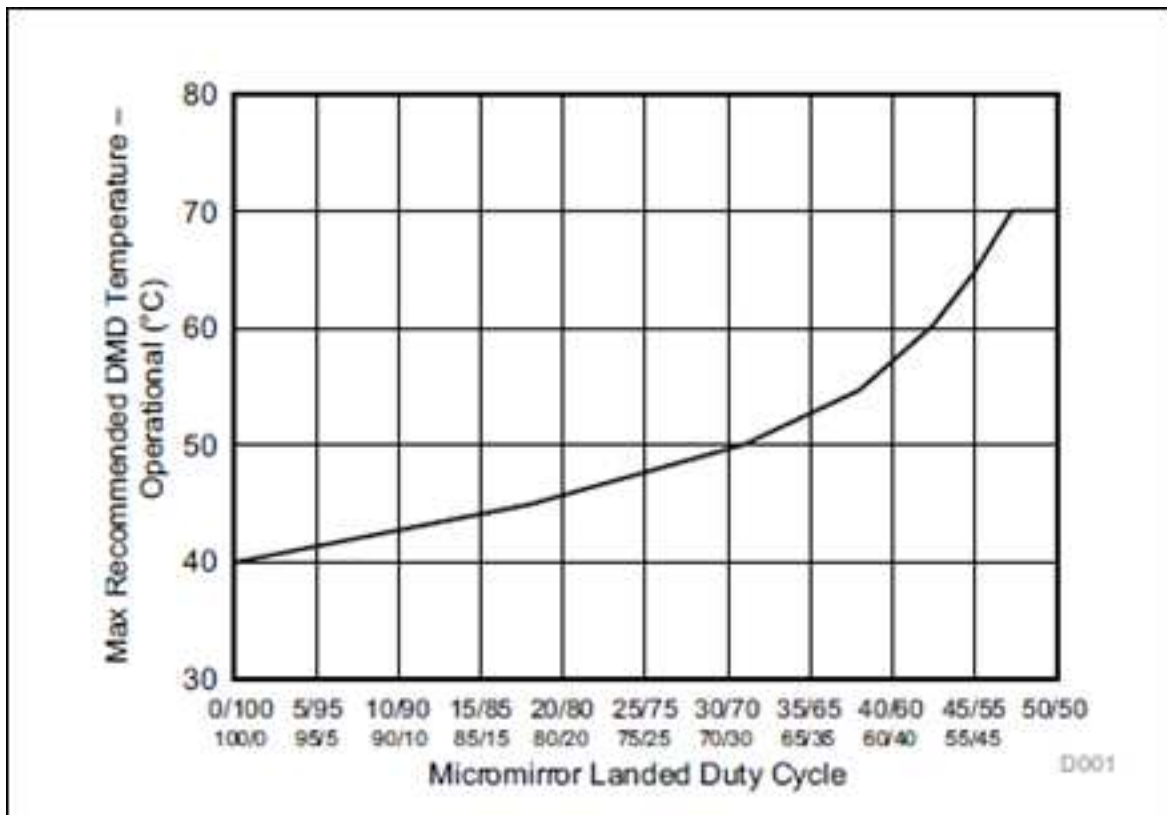

Figure 1. Max Recommended DMD Temperature – Derating Curve
(14) Per Figure 1, the maximum operational case temperature should be derated based on the micromirror landed duty cycle that the DMD experiences in the end application. Refer to Micromirror Landed-on/Landed-Off Duty Cycle for a definition of micromirror landed duty cycle.
(15) As measured between any two points on the exterior of the package, or as predicted between any two points inside the micromirror array cavity. Refer to Thermal Information and Micromirror Array Temperature Calculation.
(16) Refer to Thermal Information and Micromirror Array Temperature Calculation.